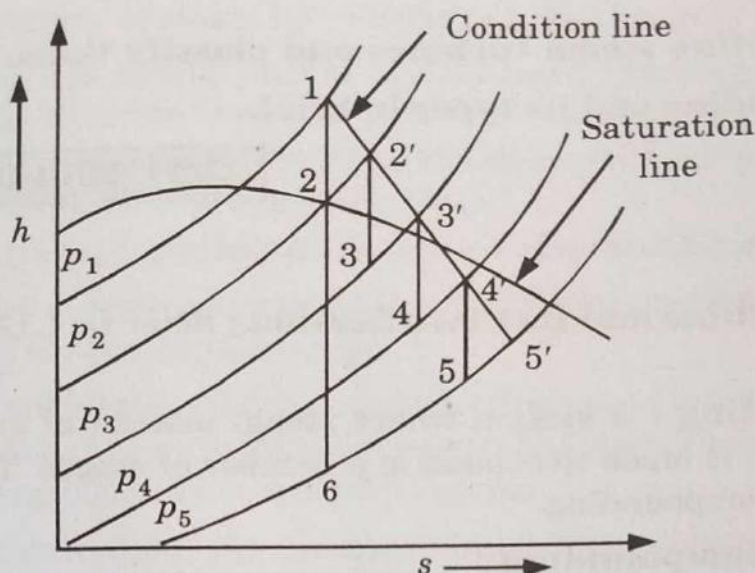

Fig. 4.15.1. *h-s diagram of four stage turbine.*
1. Consider a four stage turbine for the steam as shown in Fig. 4.15.1. Initial conditions are known at point 1.
2. From Fig. 4.15.1, 1-2 is adiabatic expansion and point 2' is located on same pressure line as point 2.